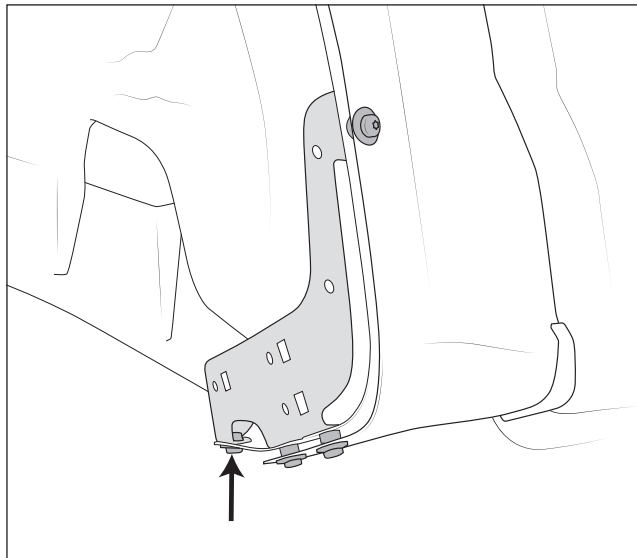

Figure 13
2. Mark the inner most bracket mount location, remove bracket and drill hole (fig. 13).
5. Install bracket using four M6x16mm nuts and bolts used earlier (fig. 13).